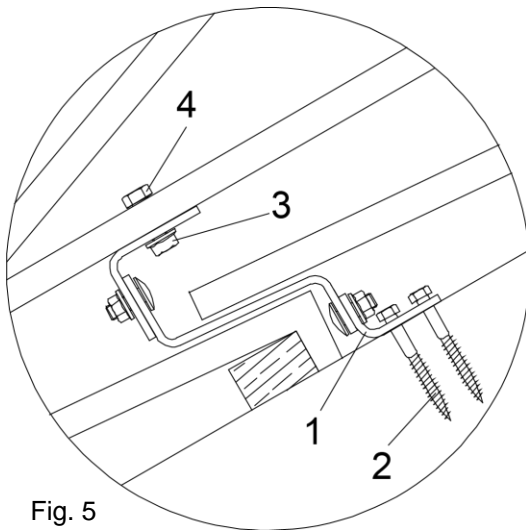

Fig. 5
4. The installation racks (accessories, order separately) are fixed with carriage-bolts M8 (3) and nuts (4) at the front and backside of the basic profile to the roof hooks (1) (Fig. 5 and 6).